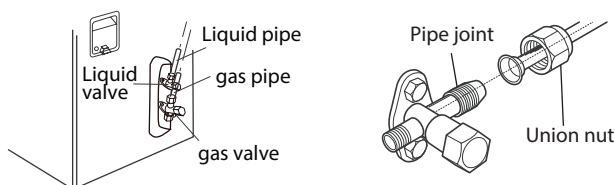

Fig.22
2. Remove the screw cap of valve and aim the pipe joint at the bellmouth of pipe.(As show in Fig.22)